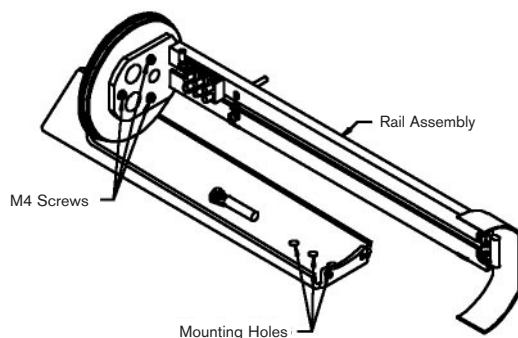

FIGURE 3 Mounting the Base Assembly
- Attach the housing to an appropriate mount or pan/tilt. Use the instructions provided with the mount or pan/tilt. The base assembly has three clearance holes for mounting. Use three M6 screws and nuts or three 1/4in. screws and nuts (not provided). Lock washers are required (not provided). Rotating the rail assembly will allow access to the mounting holes. This can be accomplished by loosening the three M4 screws. See also *Camera/Lens Orientation*. It will be easier to mount the base before installing the camera, but it may be mounted anytime during the installation process. See FIGURE 3.